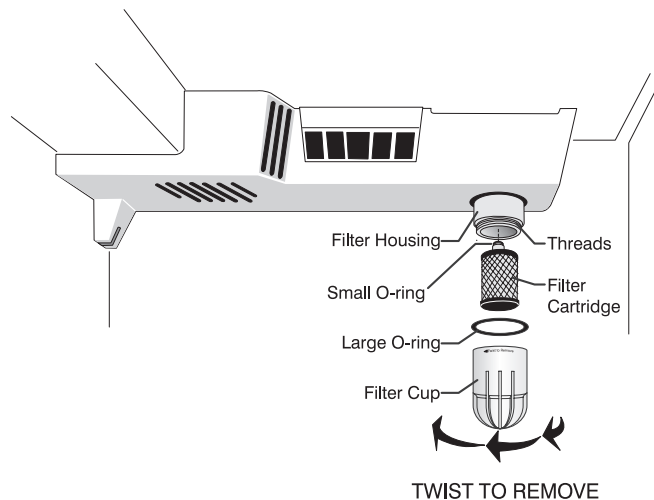

Figure 1
Water supply does not need to be turned off, however do not use ice and water dispenser while installing filter. Refer to Figure 1 as you complete these instructions.
Refer to Figure 1 as needed. It is not necessary to turn the water supply off to change the filter.
2. Hold filter cup firmly, and unscrew counter clockwise (Figure 1). (Some water could leak out as you remove cup. This is normal.) Filter cartridge should come down with cup. If cartridge remains in housing, pull down gently, while twisting filter back and forth.
4. The large o-ring (Figure 1) that seals the filter system sets in the o-ring groove down inside the cup. Should the o-ring fall out during filter cartridge replacement, simply place it back in the groove prior to screwing the cup back in place. If the o-ring becomes damaged, you will need to order one from the Consumer Assistance Center.
10. Check for leaks. Open refrigerator door. Wipe any water drops from the filter cup. Run a glass of water. If there is a leak, unscrew filter cup, and reinsert the filter cartridge. Check placement of large O-ring (see Figure 1). Reinstall filter cup, making certain it is tightened completely.